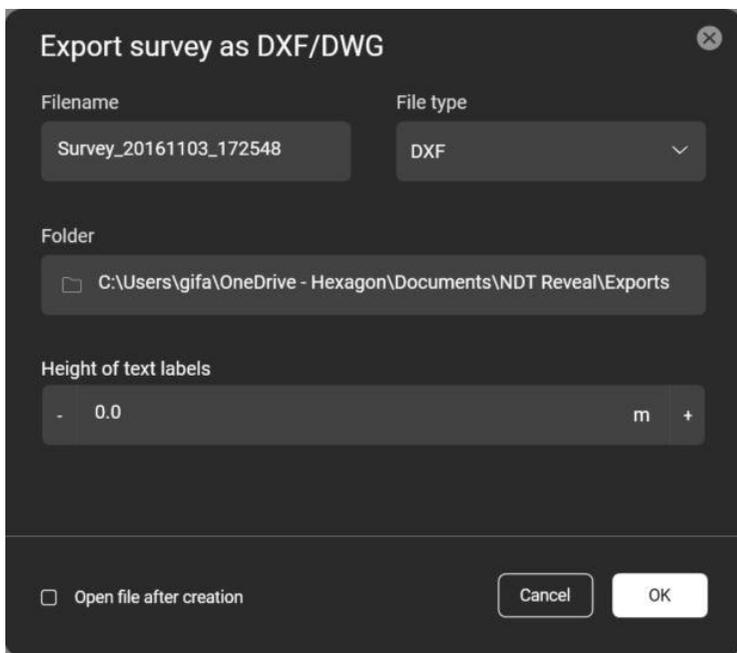

Fig. 40 Export survey window
3. Then toggle the  icon, and the “*Export survey as DXF/DWG*” window shall pop up (Fig. 40),